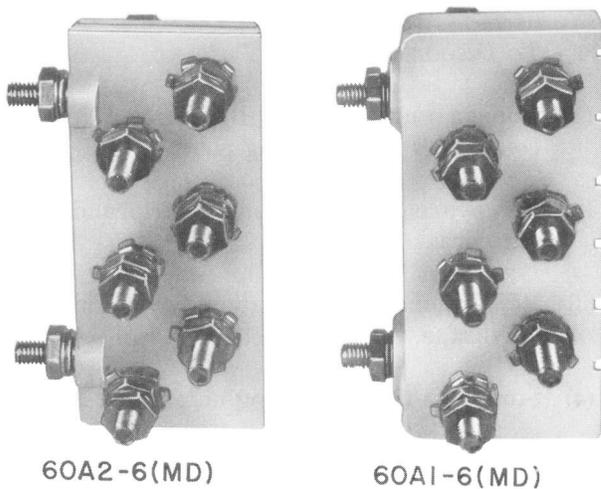

Fig. 6—60A1-6 (MD) and 60A2-6 (MD) Connecting Block
- Refer to Division 631 for additional information on 59A-type connecting block installation. ♦66-type connecting block recommended to replace 59A (MD) type.♦
2.07 60 Series Connecting Blocks (Fig. 6 and 7):